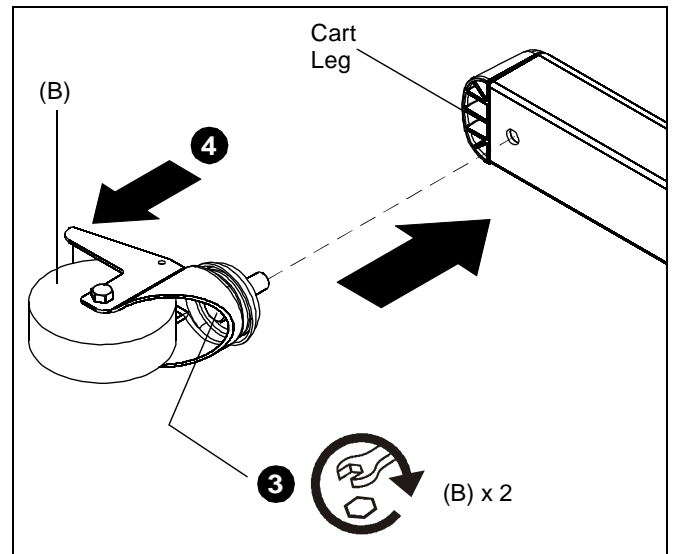

Figure 3
3. Place locking casters (B) on rear of cart and tighten bolts. (See Figure 3)
4. Lock rear casters (B) by stepping on top edge at **BRAKE ON** imprint. (See Figure 3)
5. Unlock rear casters (B) by stepping on the **OFF** button on top edge of caster.